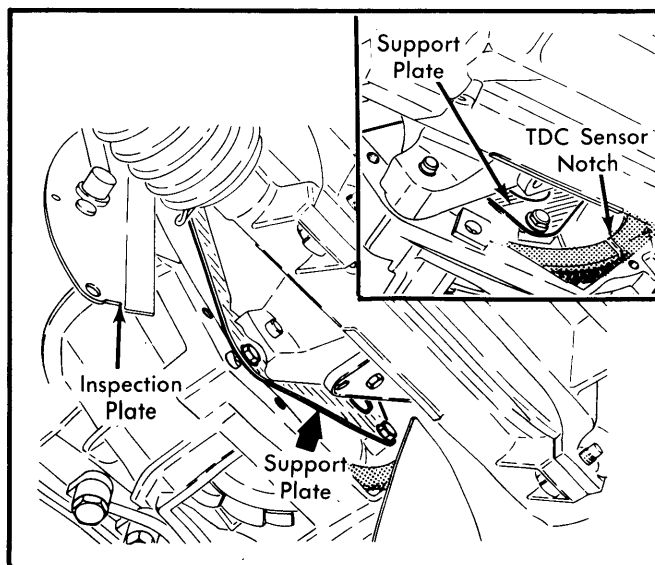

Fig. 1 Positioning Support Plate for Torque Converter
7) Remove inspection plates and clutch housing. On vehicles with automatic transmission, remove inspection plate without altering TDC sensor adjustment. To do so, position torque converter support plate as shown in Fig. 1. Mark TDC sensor notch in reference to support plate. Support torque converter with special clamp (8.0315-A).